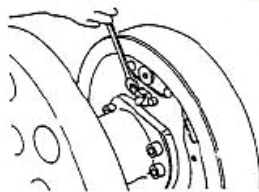

Figure 3
(3) Remove the anchor spring on the main brake shoe, as figure 3